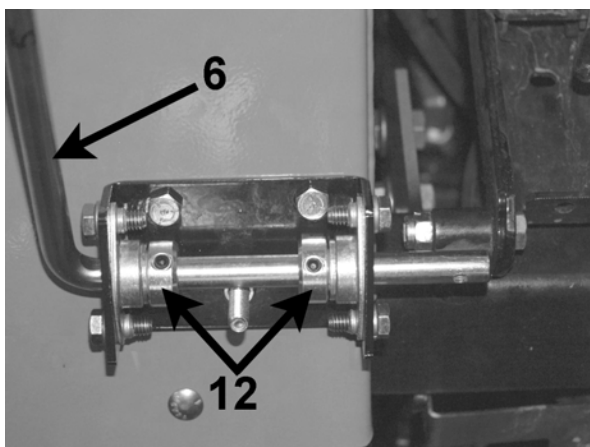

Figure 4
4. Attach the Hand Control Lever **6** and two set collars **12**. Insert the lever from the right side and slide the two set collars on in between the bearings as shown. (**Figure 4**)